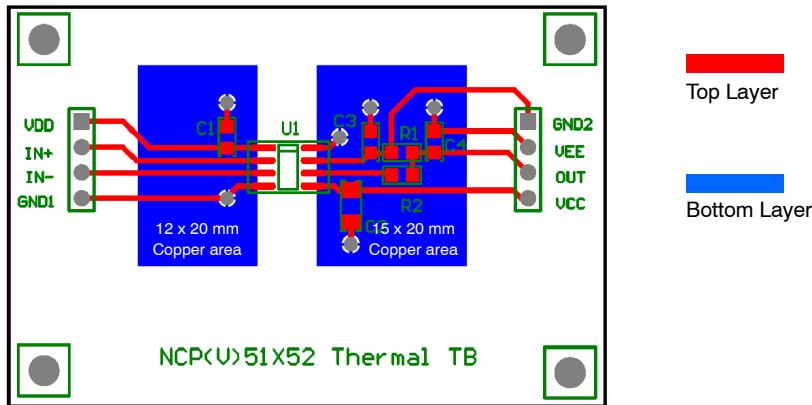

Figure 5. Reference Layout for the Type–B
- 8. As specified for a reference layout shown in Figure 5. The DUT is mounted on a 60 x 40 x 1.6 mm FR4 substrate with an additional heat spreading copper of 240 mm²/300 mm² (Primary/Secondary). The copper thickness is 1oz and test conditions is under natural convection or zero air flow.